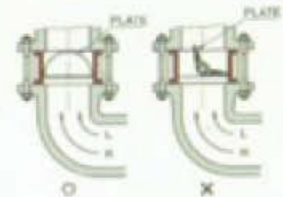

Fig.6
- When installing wafer Check near an elbow, leave a space as large as possible between an elbow and wafer Check and be sure that the plate is stressed evenly. (Fig.6)